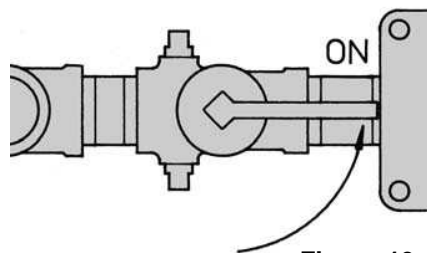

Figure 19
- a) Open the main gas cock knob counter-clockwise 1/4 turn to "ON" (Figure 19). Turn on all electric power to the boiler. Set thermostat to desired position. Turn operating switch on boiler to "ON" position. The boiler is energized and 35 second prepurge begins.